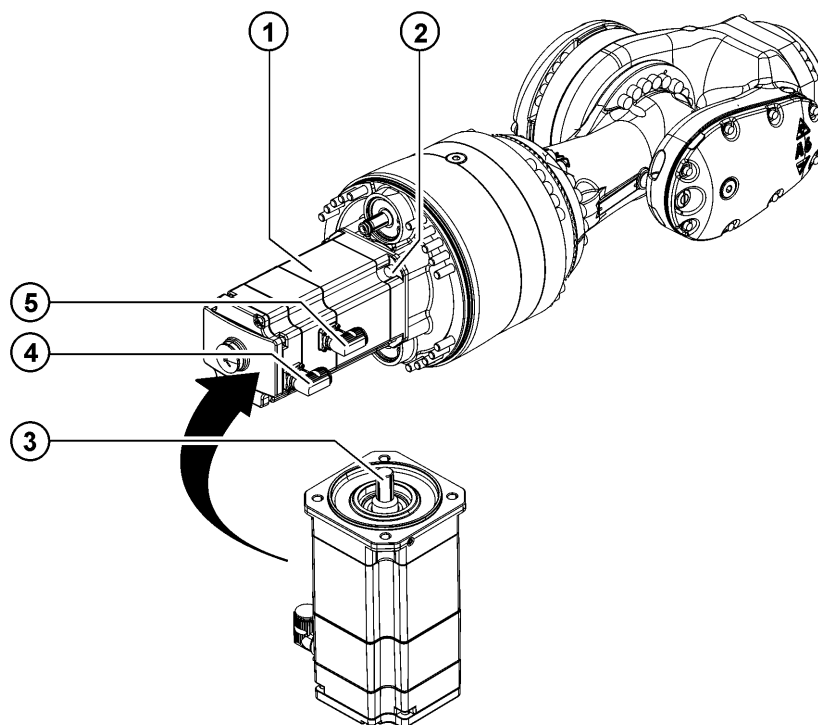

Fig. 11-18: Installing motor A6
2. Clean the toothing on motor A6 and in the gear unit of the in-line wrist before installation and apply a thin but continuous coat of Microlube GL 261 grease (>>> Fig. 11-18).